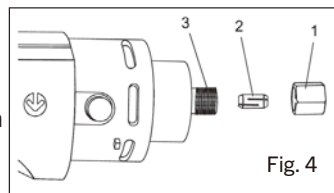

Fig. 4
NOTE: If the shank of the bit being installed is a different size than the bit being removed, install the correct collet as outlined in Fig. 4.
The cutting bits for this tool are locked into place with a collet nut (1) and collet (2) (Fig. 4). 1/8" and 5/32" collets are used for holding 1/8" and 5/32" cutting bits and hobby tool accessory bits. The 1/4" collet is supplied for holding 1/4" drywall and small router bits.
2. Turn the collet nut counter clockwise until it can be removed from the motor shaft (3) (Fig. 4).